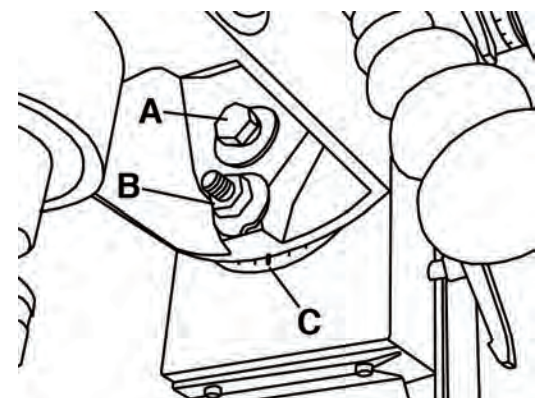

FIGURE 14
- 1) Support the head with one hand, then loosen the head center bolt (A) Fig.14 and angle lock nut (B) Fig.14.
- 2) Tilt the head to the desired angle using the angle scale (C) Fig.14 as reference, then tighten the head center bolt (A) Fig.14 and angle lock nut (B) Fig.14.